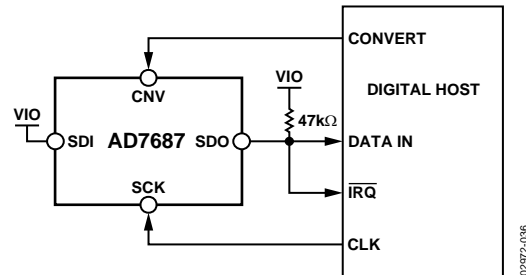
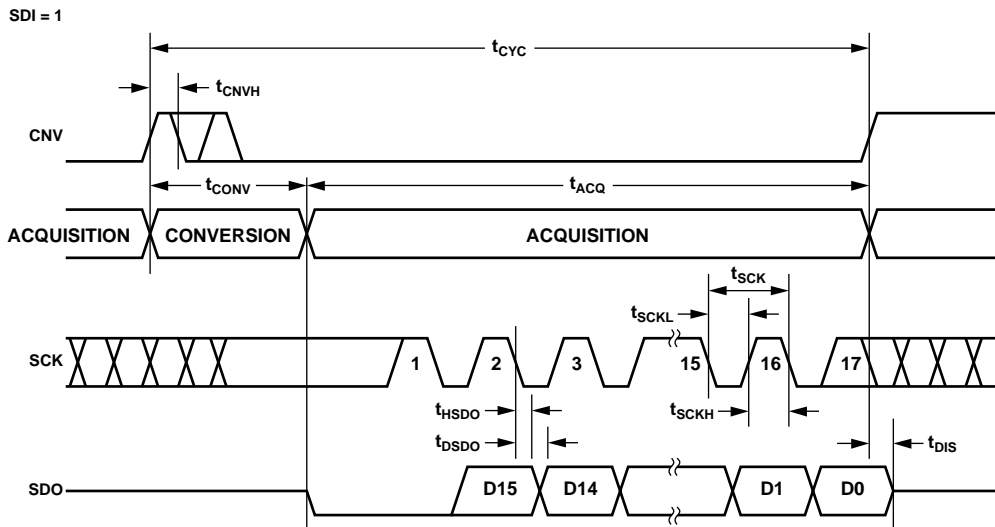
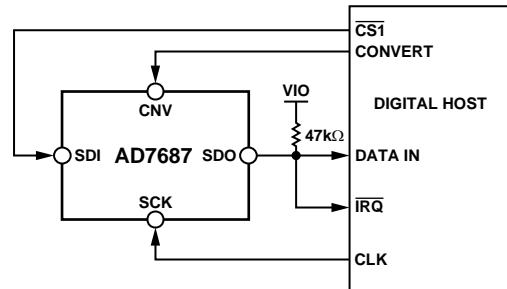
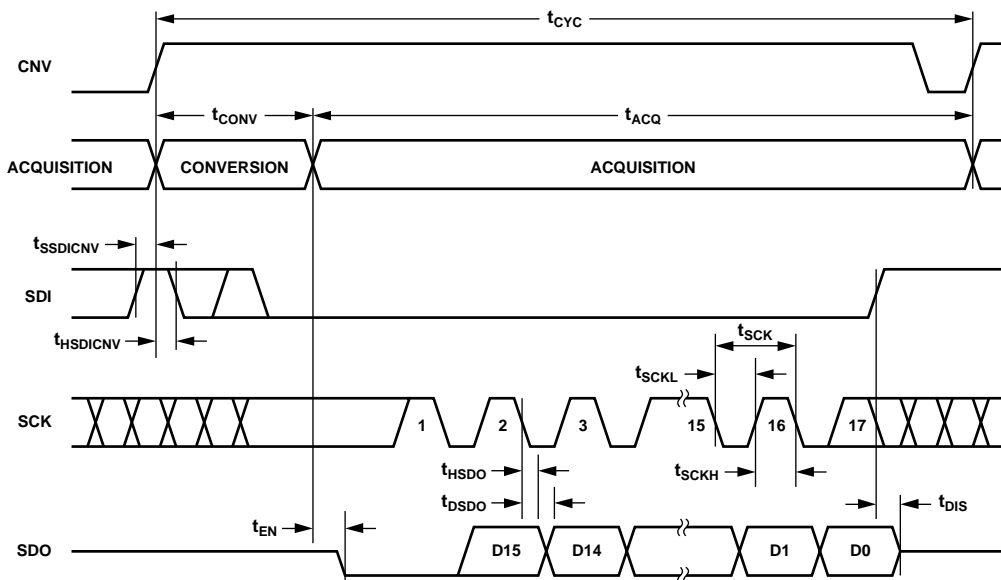

Figure 36. $\overline{\text{CS}}$ Mode, 3-Wire with BUSY Indicator Connection Diagram (SDI High)
Figure 37. $\overline{\text{CS}}$ Mode, 3-Wire with BUSY Indicator Serial Interface Timing (SDI High)
Figure 40. \overline{CS} Mode, 4-Wire with BUSY Indicator Connection Diagram
Figure 41. \overline{CS} Mode, 4-Wire with BUSY Indicator Serial Interface Timing
- In the $\overline{\text{CS}}$ mode if $\overline{\text{CNV}}$ or $\overline{\text{SDI}}$ is low when the ADC conversion ends (see Figure 37 and Figure 41).
Figure 36 shows the connection diagram and Figure 37 gives the corresponding timing.
Figure 40 shows the connection diagram and Figure 41 gives the corresponding timing.